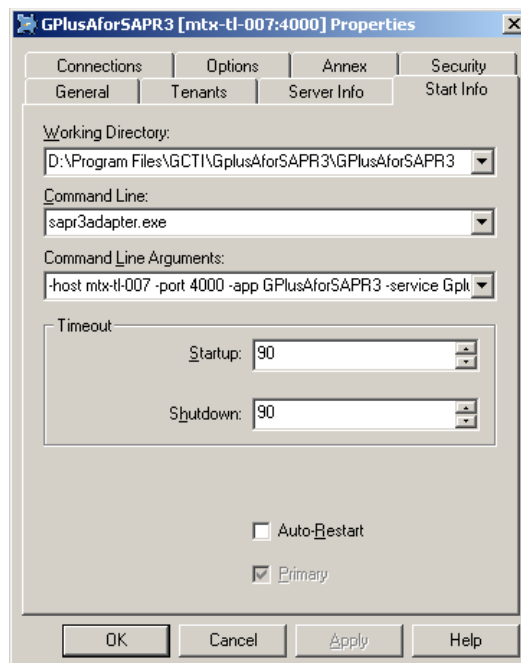

Figure 11: Start Info Tab
- Startup parameters populated in the Start Info tab of the Adapter Application object in Configuration Manager. See Figure 11.